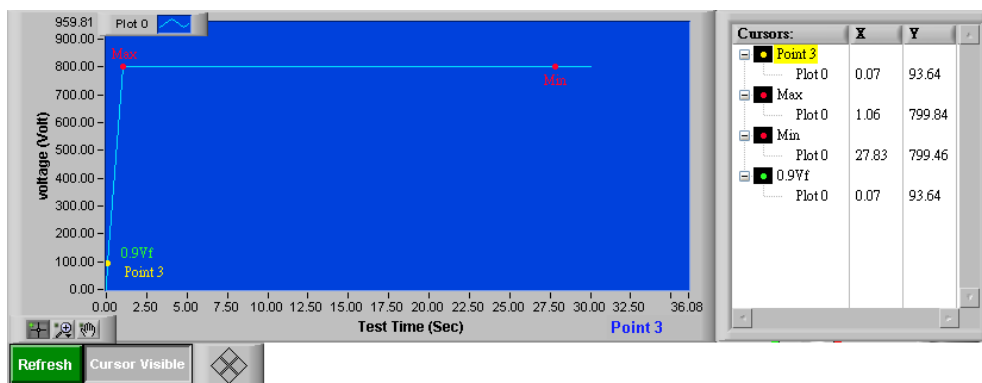

Figure 6-2 Waveform of Withstanding Voltage
- : It sets if to enable specific cursors on the output curve, for instance 90%Vf coordinate and the coordinate of Max, Min (the minimum of curve after Max.) and etc. as Figure 6-2 shows. Users can use the magnifier and movement buttons